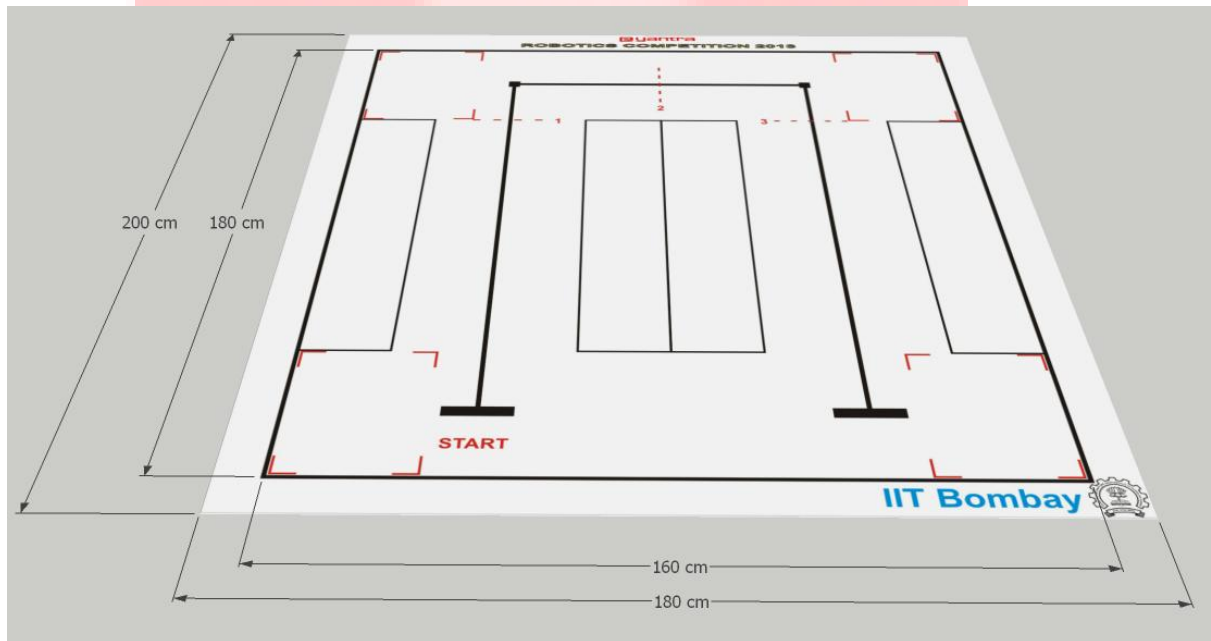

Figure 2: Flex design
1. Flex design is shown in Figure 2.
2. Dimension of flex sheet is 180cm x 200 cm. An extra margin of 10cm is given on all sides so that the flex sheet may be stuck on the ground. (Refer to Figure 2)